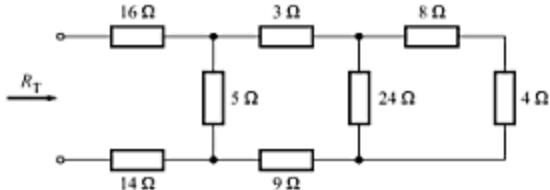

Fig. A-88
- A-50. Find the total resistance R_T of the resistor ladder network given in Fig. A-88.